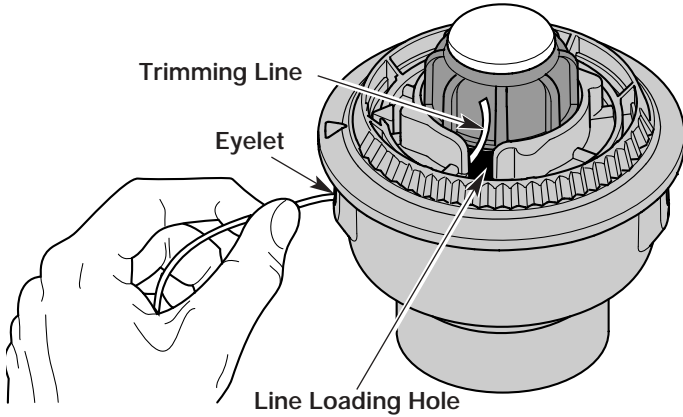

Fig. 21
3. Pull old line out of the line loading and line locking holes (Fig. 21 and 22).
4. Insert a piece of trimming line into one of the two eyelets in the outer spool. Push it up through the line loading hole in the inner reel (Fig. 21). Do not bend the line when inserting it into the eyelet.